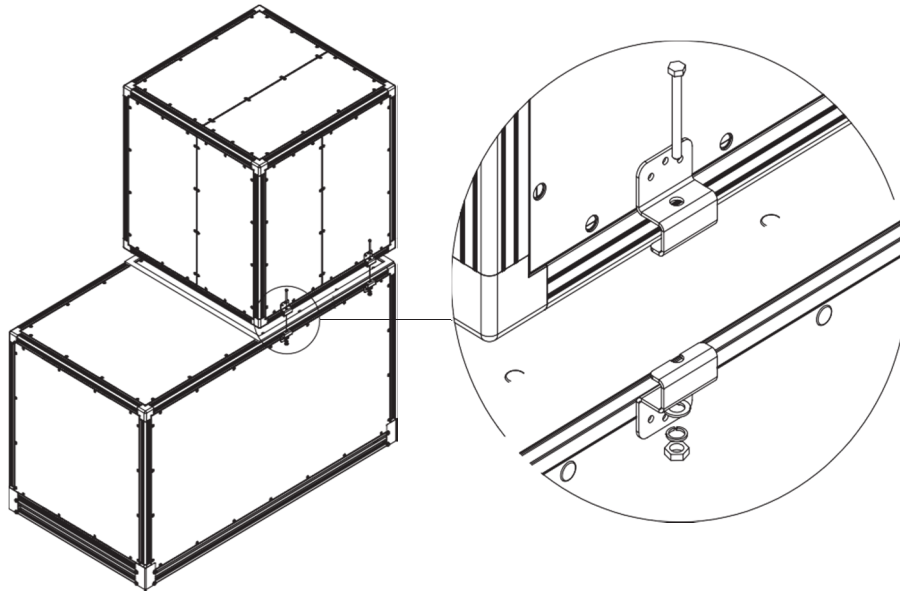

Figure 3.9 External Connection & Insulation between Upper and Bottom Splits
- 3) Attach the insulation tapes (13\*38) along the contact edges of the upper and bottom tiers of the air handling unit. See Figure 3.9.